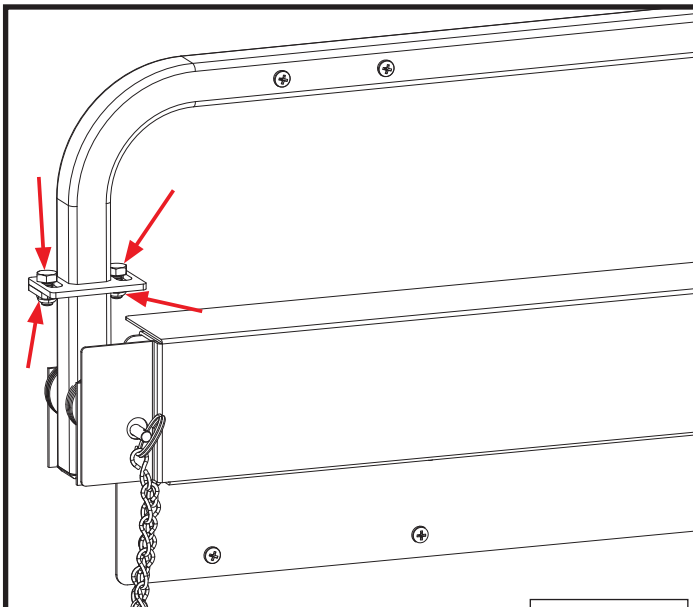

Figure 5.2
2. Tighten the nuts and bolts on Adjusting Bracket located on right and left assembly (Figure 5.2).